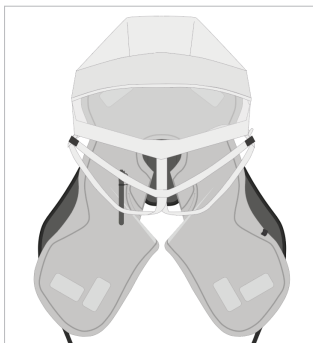

FIGURE 37 Stage 2
2. Bring the lower and upper visor up towards the top of the bladder and tuck the top of the hood underneath (Fig 37).